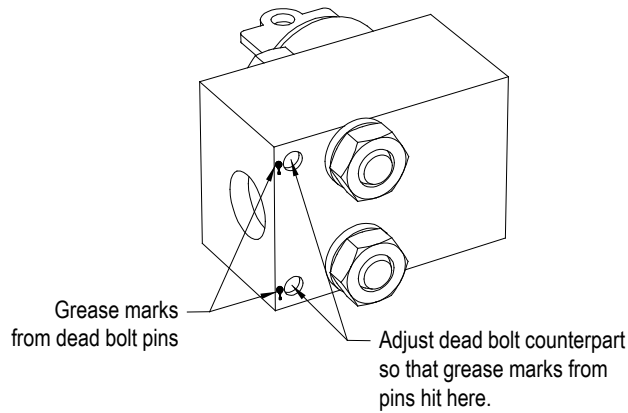

Figure 4.1 – Dead bolt assembly mounted to door
3. Open the doors of the cabinet and inspect the key assembly. Place high visibility grease on the pins of the dead-bolt counterpart. The factory recommends using yellow torque sealant, however if it is unavailable almost any grease will do. (See Figure 4.1)
4. Bolt the cabinet door closed so the pins on the dead bolt counterpart make contact with the dead bolt assembly. Doing so should leave two marks of torque sealant or grease on the assembly where the pins made contact (See Figure 4.1 – Dead bolt assembly).